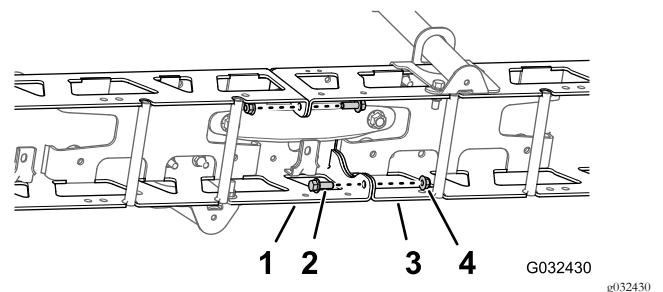

Figure 74
- Remove the 2 flange-head bolts (3/8 x 1 inch) and 2 locknuts (3/8 inch) that secure the vertical flanges of the left and right truss frames (Figure 74).